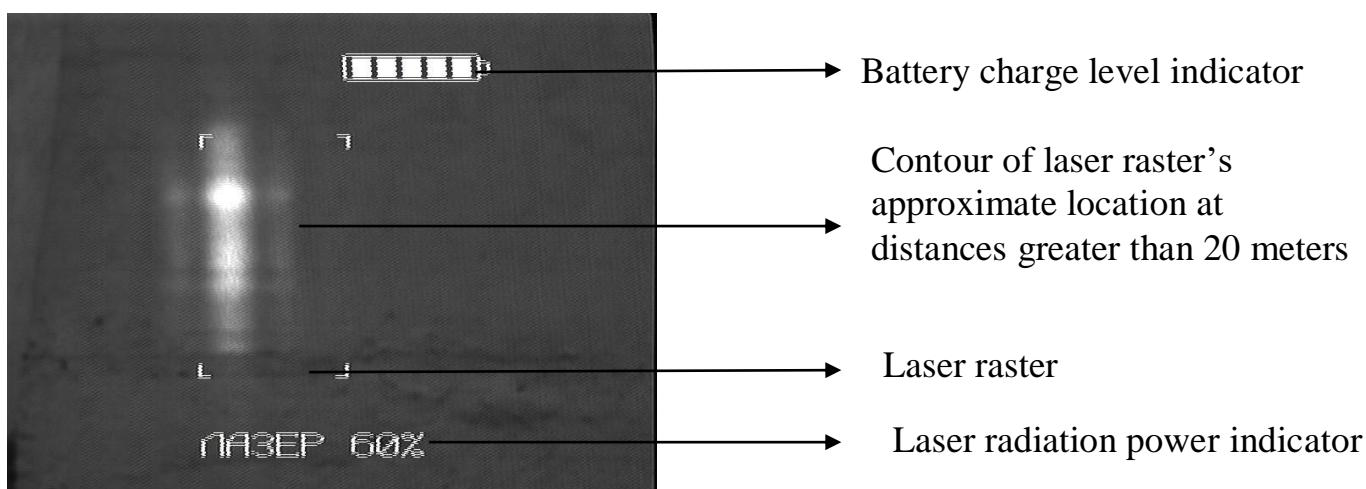

Fig.3. Example of image obtained with help of SPIN-2
1.4.6. The level of battery charge is indicated in the right top corner of the image (Fig. 3). When the battery is flat the instrument is automatically switched off.
1.4.7. The example of image obtained by moving it on the wall from the distance 15 m are shown on figure 3.